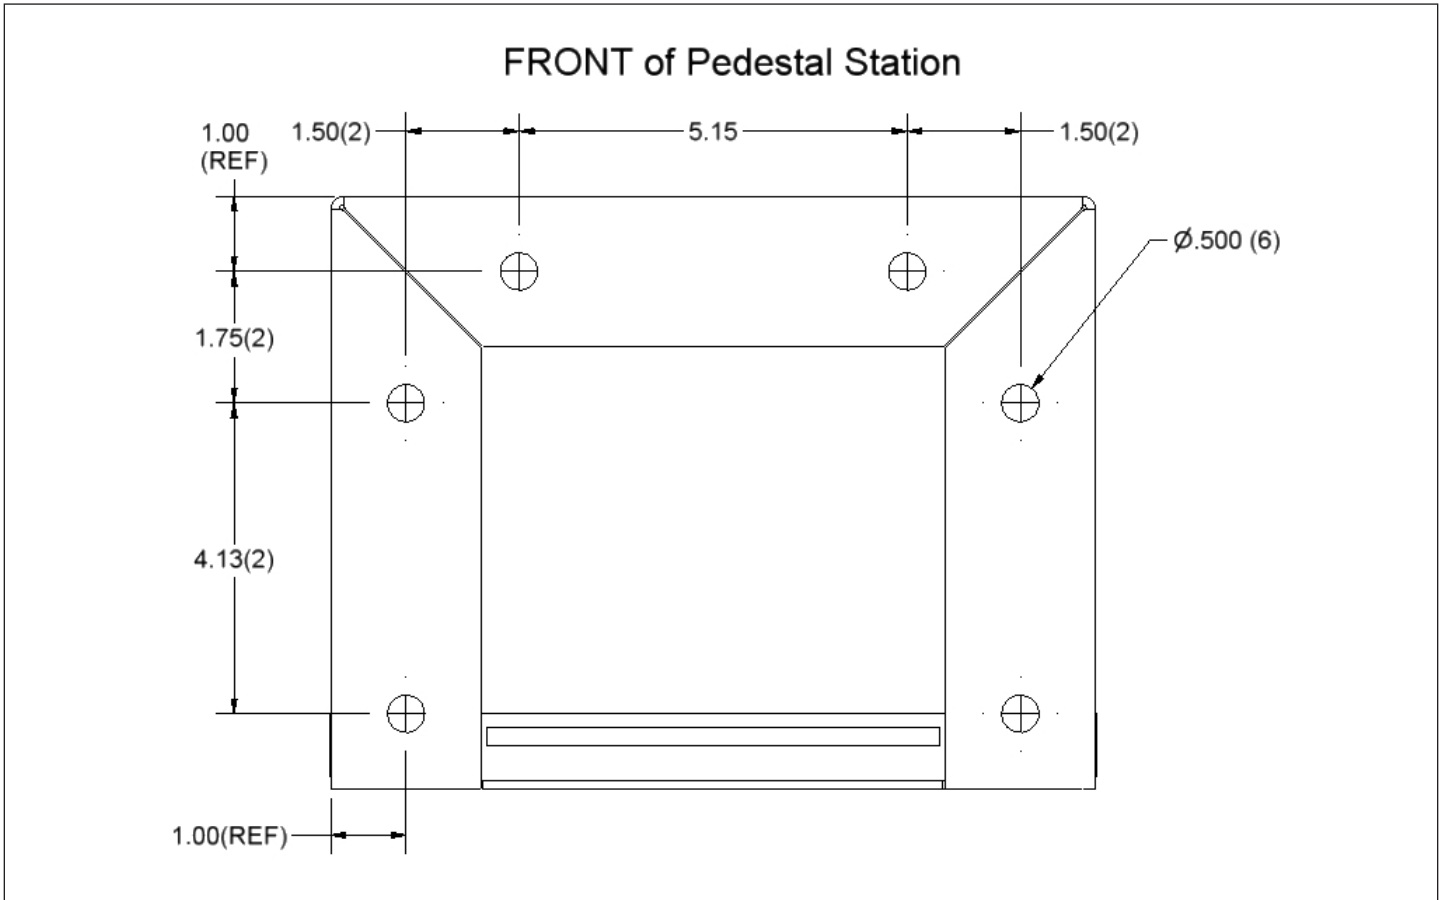

Figure 14. Base Detail Pedestal for EVSE.
- Step 3:** The hole pattern for the base of the pedestal mount is shown below in Figure 14. Use six, 3/8 UNC Grade 5 stainless bolts torqued at 50 ft-lbs for mounting base to the ground.